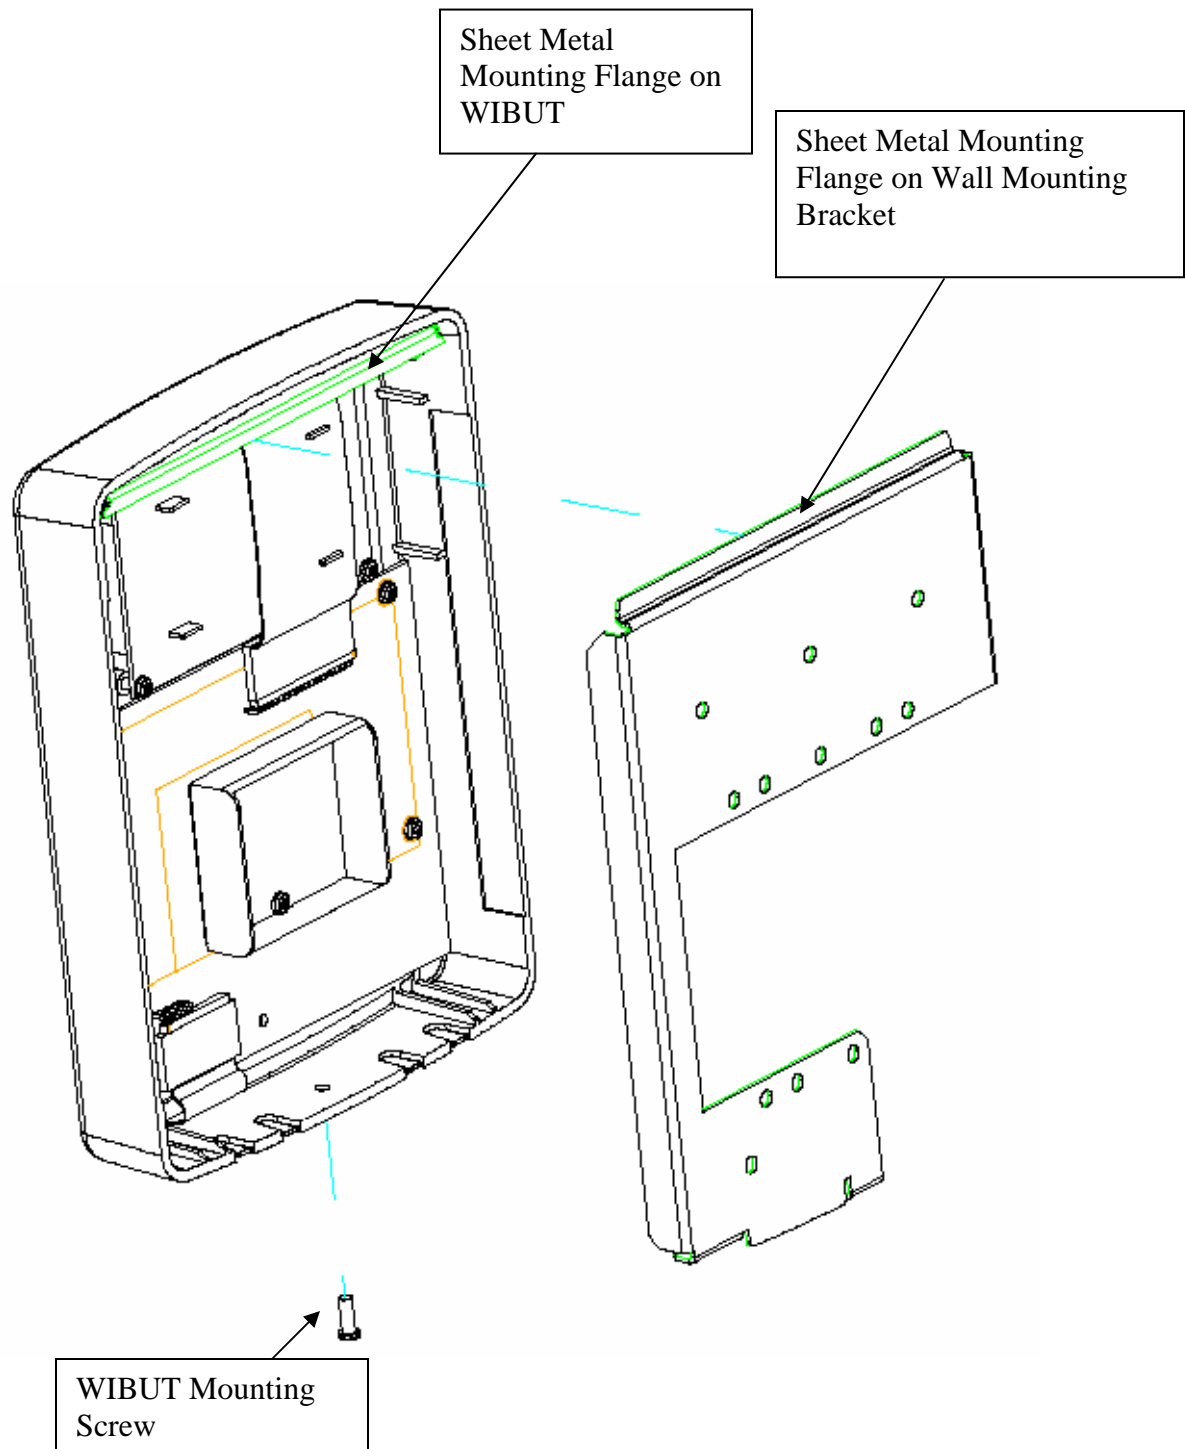

Figure 3
3. Position the WIBUT over the sheet metal wall mounting bracket. The sheet metal mounting flange on the WIBUT slides over the top of the sheet metal wall mounting bracket as shown in Figure 3.
5. Attach the WIBUT to the sheet metal wall mounting bracket using the 6-32 3/8" screw as show in Figure 3.